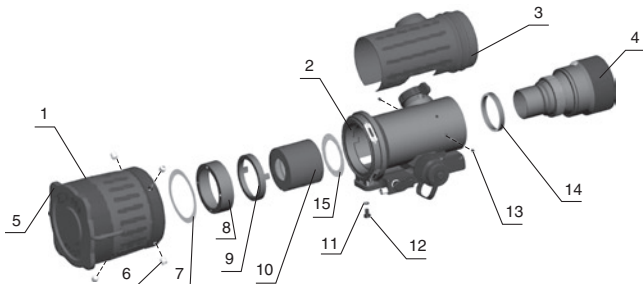
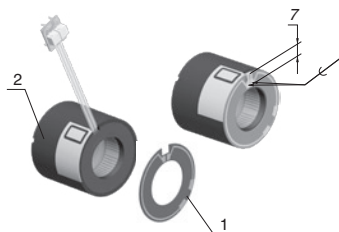

FIGURE 3-7. CONSTANT GAIN TUBE REPLACEMENT
FIGURE 3-8. INSTALLATION OF THE BOARD TO THE VARIABLE GAIN TUBE
- Draw the adjusting shims (Figure 3-7, 15) out the sight (constant gain tube).
(1) Variable Gain Tube MX-11769 (F9815 Series) Preparation
- Glue the board (Figure 3-8, 1) onto the rear end surface of the variable gain tube.
- Cut the flexible circuit of the tube according the Figure 3-8.
(2) Constant Gain Tube MX-10160 (F9800 Series) Preparation
- Screw the lock ring (Figure 3-7, 2) and tight it lightly.
- Looking through the telescope, turn adjustment screws (Figure 3-7, 13) by pairs to match image of collimator crosshair with crosshair of the telescope.